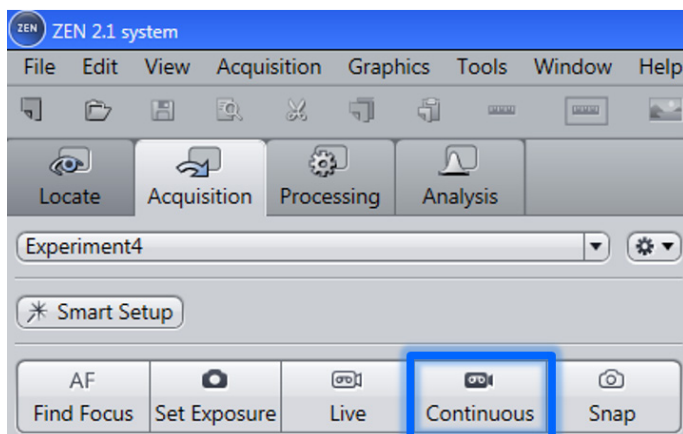

Fig. 19 Starting the continuous image acquisition
- Start a continuous scan by clicking the **Continuous** button (Fig. 19).